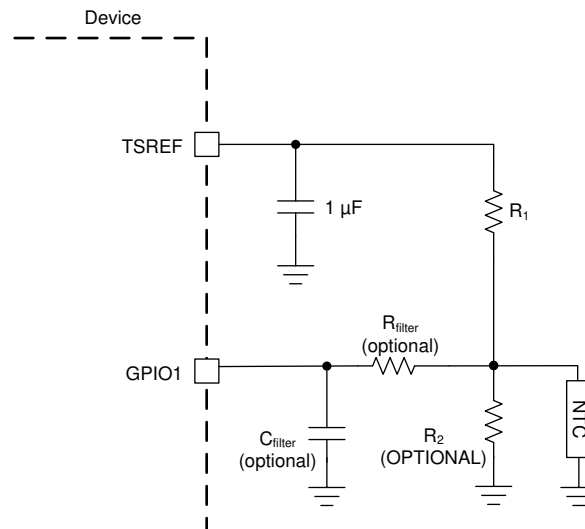

Figure 8-5. Thermistor Connection
Figure 8-5 shows the thermistor circuit when GPIO is enabled for thermistor measurements. MCU ensures TSREF is enabled by setting $CONTROL2[TSREF_EN] = 1$ and settled before taking the measurement value.
- $R1$ is the pull-up resistor as shown in Figure 8-5 with the assumption the $R2$ is not used